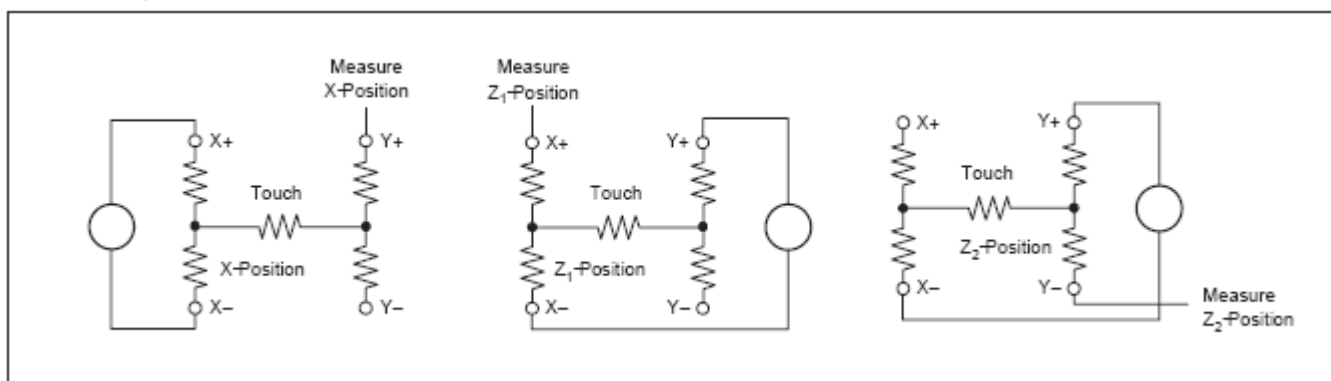

Figure 8. Pressure Measurement Block Diagrams
Measuring touch pressure can also be done with the TSC2046S. To determine pen or finger touch, the pressure of the touch needs to be determined. Generally, it is not necessary to have very high performance for this test; therefore, the 8-bit resolution mode is recommended (however, calculations will be shown here in the 12-bit resolution mode). There are several different ways of performing this measurement. The TSC2046S supports two methods. The first method requires knowing the X-plate resistance, measurement of the X-Position, and two additional cross panel measurements (Z1 and Z2) of the touch screen, as shown in Figure 8. Using Equation (3) calculates the touch resistance: